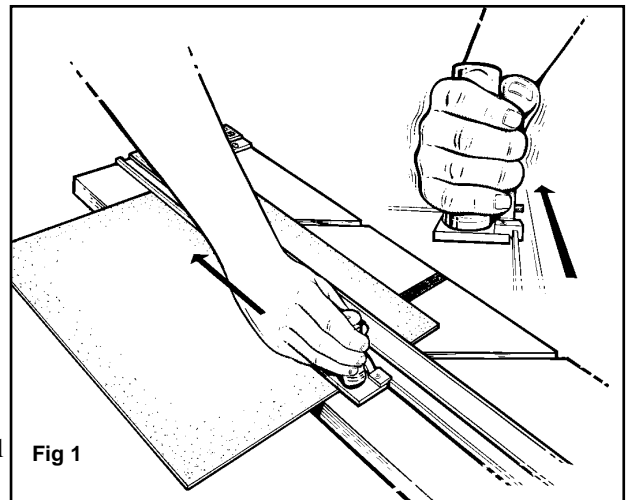

Fig 1
4. Use the Nylon Guides on the Straight Cutter to hook the Cutting Head onto the Guide Rail past the end of the board to be cut. Grasp the handle as shown in the picture and pull the Straight Cutting head towards you. Keep constant downward pressure on the Straight Cutting Head and the Guide Rail as you make your cut. **Fig. 1**